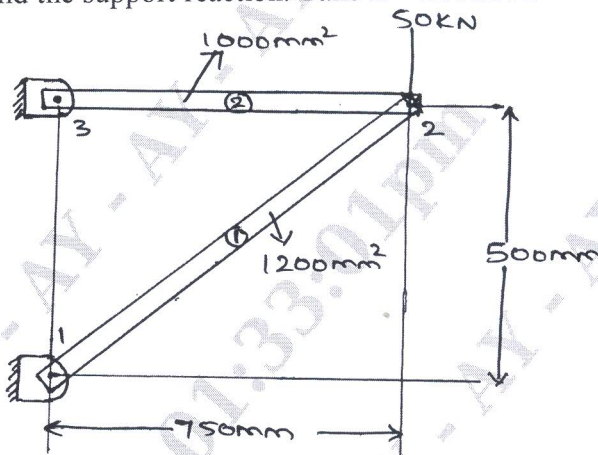

Fig Q6(b)
- b. For the two bar truss shown in Fig Q6(b), determine the nodal displacement and the stress in each member. Also find the support reaction. Take  $E = 200\text{GPa}$ .